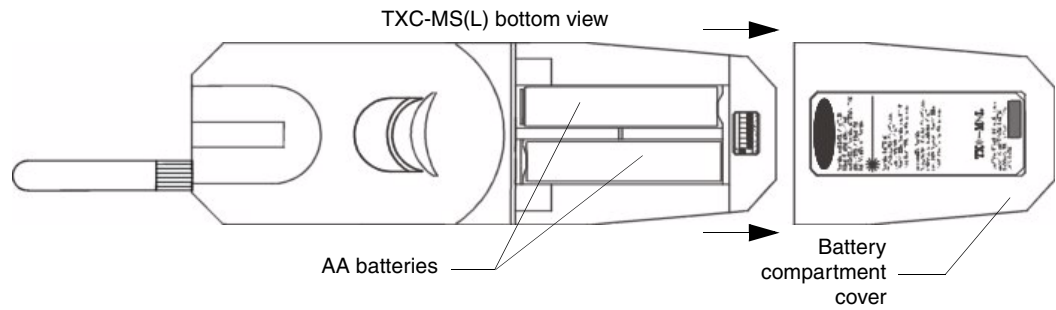

FIG. 21 TXC-MS(L) battery compartment
The battery compartment of the TXC-MS(L) is located on the back of the transmitter (FIG. 21). Slide the battery compartment cover off, and replace the two AA batteries.